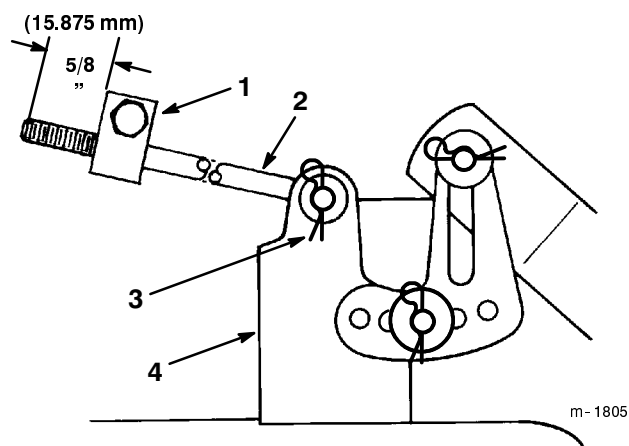

Figure 51
6. Measure the length of the rod extending out the front of the adjusting block on the sides of the chassis (Fig. 51). If the rod length is not 5/8" (15.875 mm), remove the hair pin cotter and washer from the end of the rod (Fig. 51), and turn the rod until the 5/8" (15.875 mm) dimension is obtained. Then install the end of the rod into the hole in the mower mount and secure in place with washer and hair pin cotter. Repeat this procedure on the opposite side of the mower.